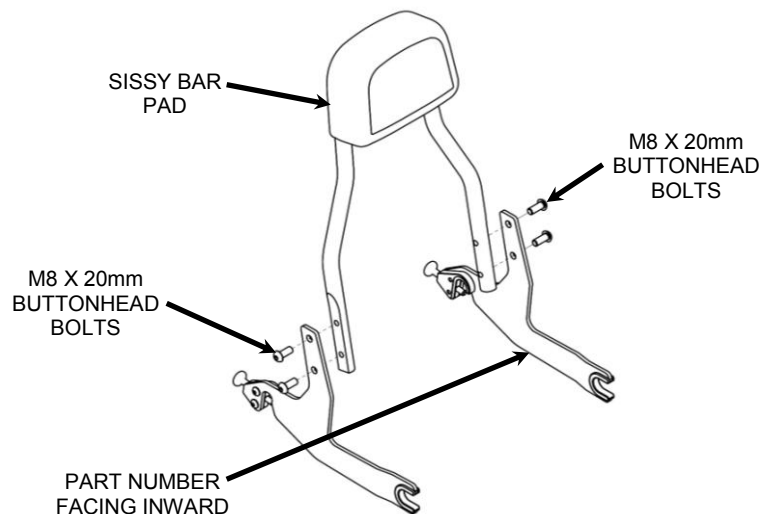

FIGURE 3
6. Install the supplied side plates on to the sissy bar with the four M8 X 20mm button head bolts. Make sure the u-shaped grommets are facing the same direction as the sissy bar pad and the part numbers are facing inward. See **FIGURE 3**. Snug the bolts but **DO NOT TIGHTEN** at this time.